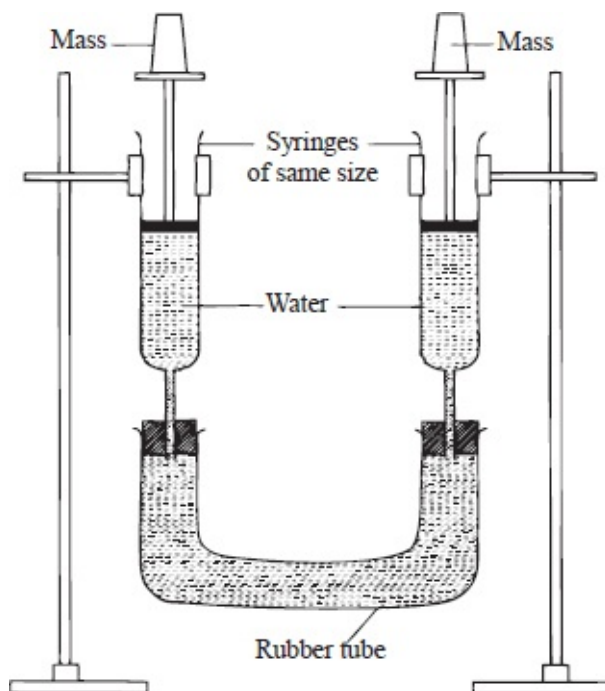

Fig. 4.11: Transmission of pressure in liquids
- Set up the apparatus as shown in figure 4.11.